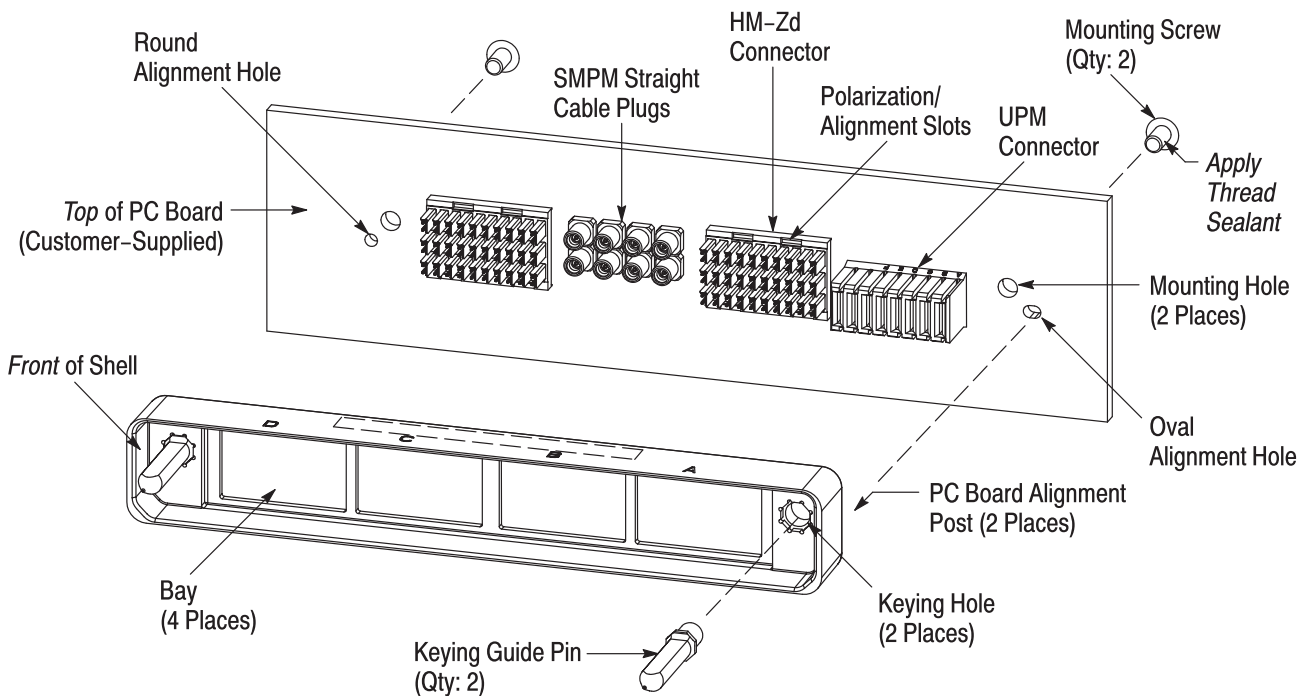

Figure 3
3.2. Mother Board Connector Kit (Refer to Figure 3)
Refer to Figure 3. Orient the HM-Zd connector so that: